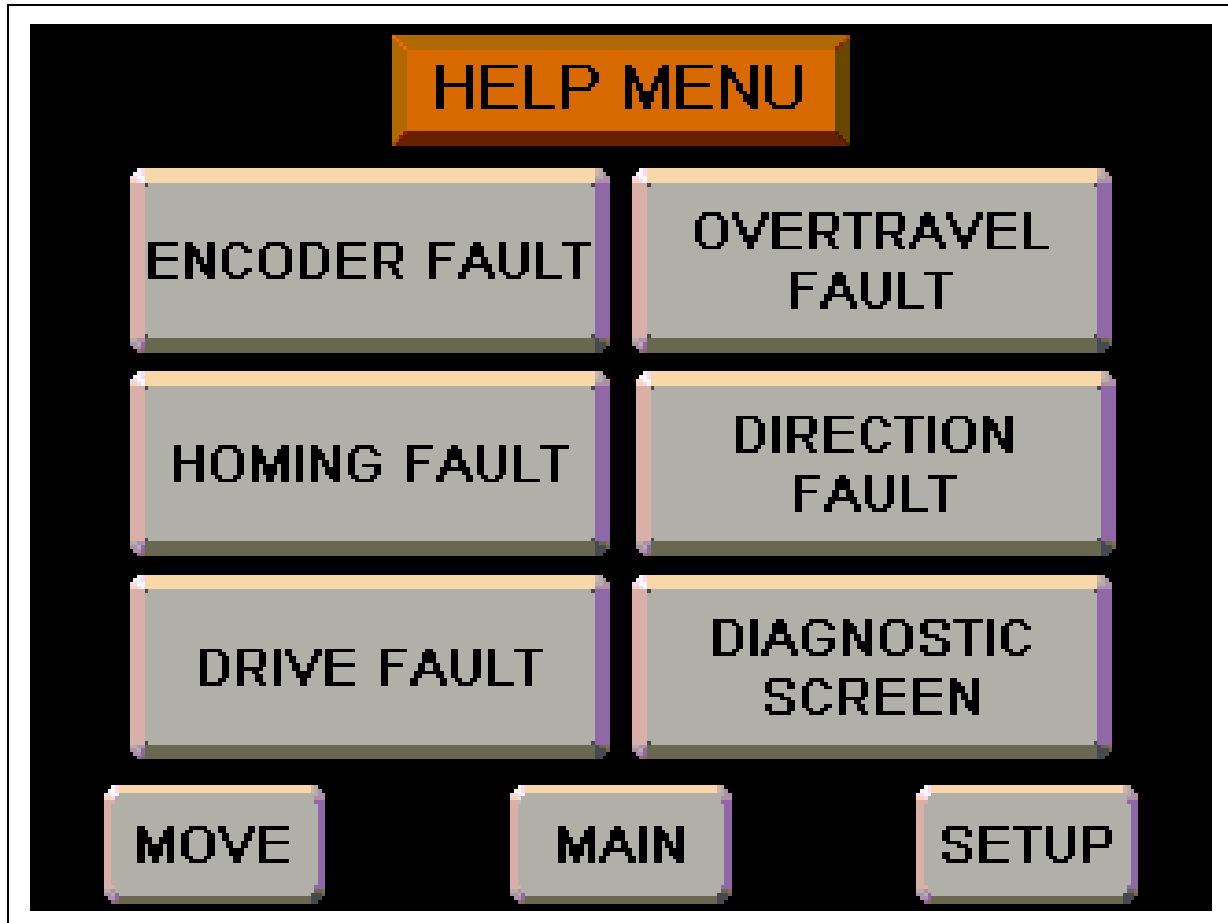

Figure 4T Help Menu Screen
The help menu has six (6) options for displaying troubleshooting information for different faults that may appear during the operation of the distributor and for checking diagnostic parameters. (See Figure 4T.)